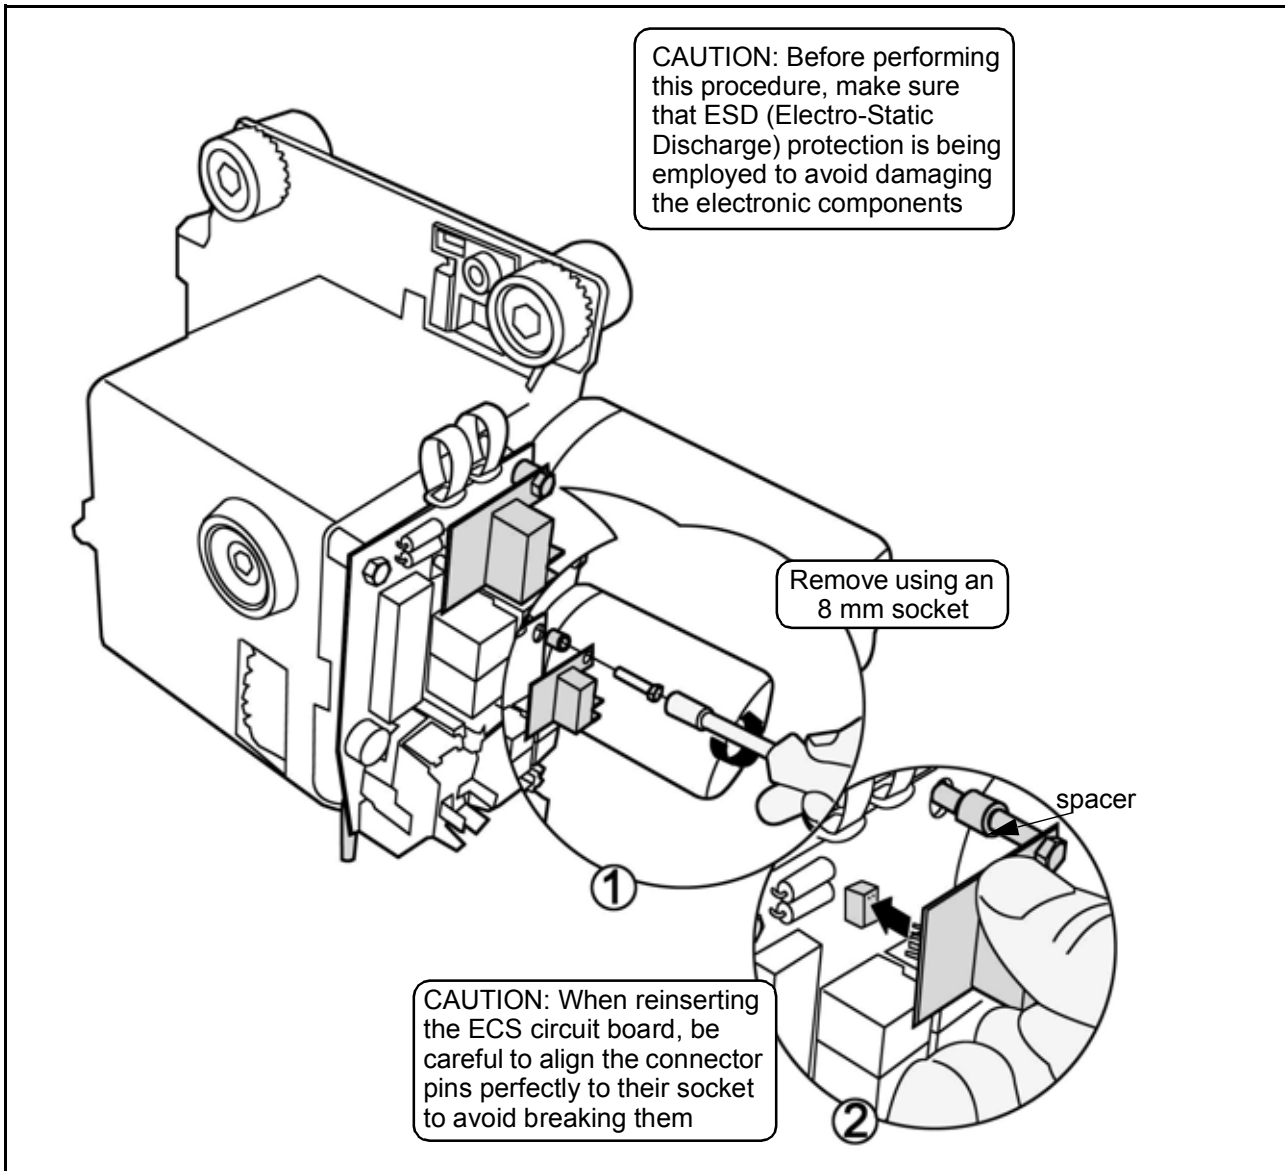

Fig. 51
- 3 Install the new ECS board on, coupling it to the main circuit board's connector. Ensure that the spacer is placed between the main and ECS circuit boards (see Fig. 51).
After getting access to the cassette's frame and after removing the ECS circuit board (see Fig. 51):